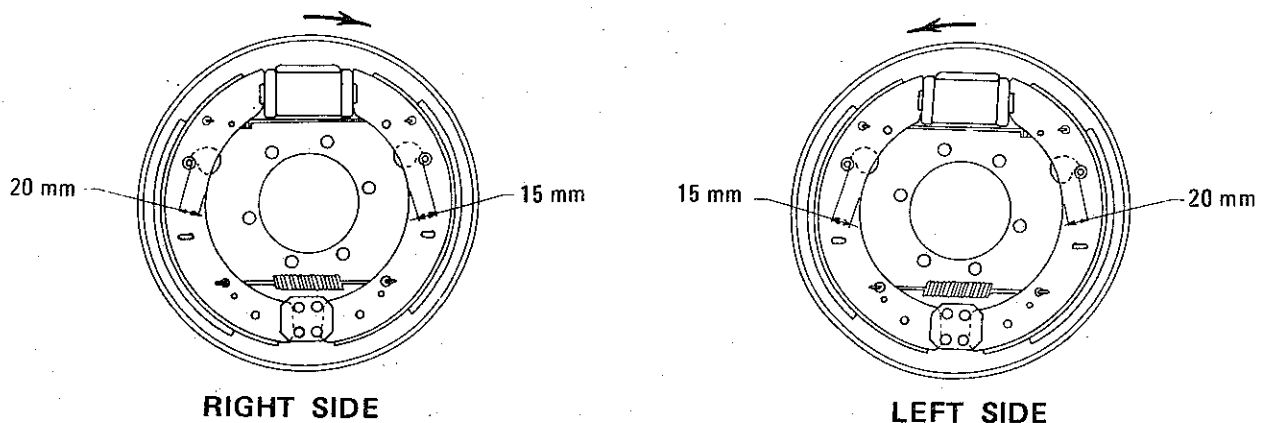

FIG 1 - REAR BRAKES
- b. Rear brake shoes are to be measured, to determine which is the leading, and which is the trailing brake shoe. The measurement is taken from the inside edge of the brake shoe, to the outside diameter of the adjustment pin as shown in Fig 1.
- b. Rear brake shoes are to be fitted as shown in Fig 1.